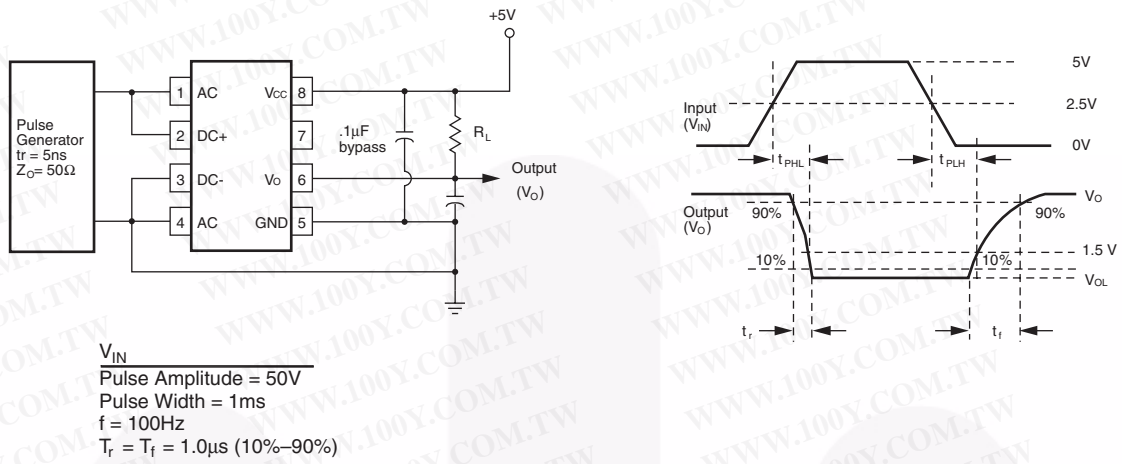

Fig. 9. Switching Test Circuit
6. T_{PHL} propagation delay is measured from the 2.5V level of the leading edge of a 5.0V input pulse (1 μs rise time) to the 1.5 V level on the leading edge of the output pulse. T_{PLH} propagation delay is measured on the trailing edges of the input and output pulse. (Refer to Fig. 9)